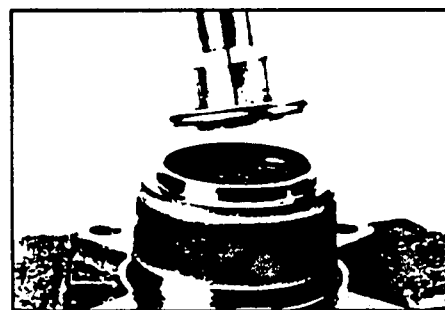

Figure 25
19. Remove housing (18) from vise, invert it and remove and discard seal (20). A blind hole bearing or seal puller required. SEE FIGURE 25.